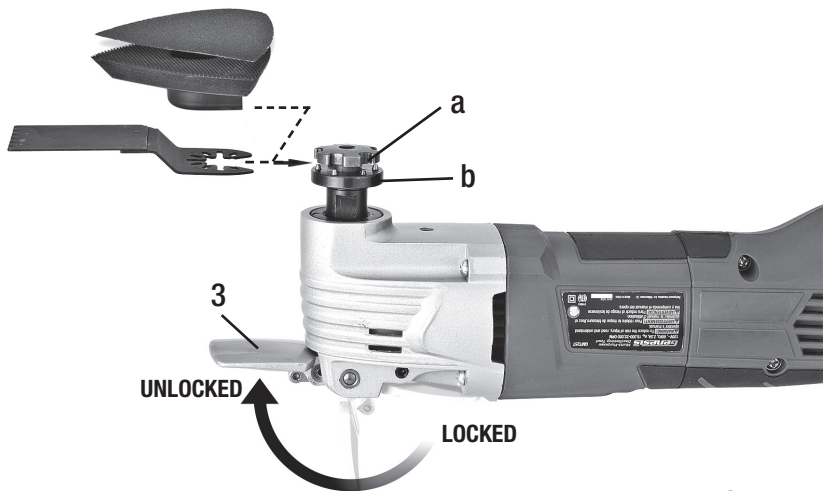

FIG 2
To Install the Accessories (FIG 2)
1. Flip the Accessory Quick-Change Lever (3) forward completely to separate the blade flange (a) and shaft flange (b) as shown on FIG 2.
3. Flip the Accessory Quick-Change Lever (3) back to locked position to secure the accessory in place.